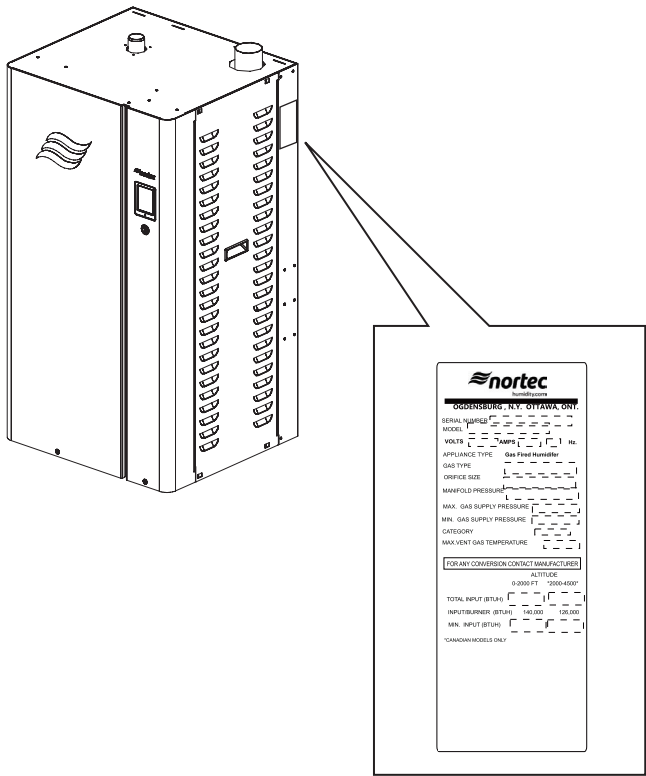

Figure 3: Nortec GS Humidifier Specification Label
- Verify the model type on the specification label to ensure that it is suitable for your installation. Refer to Figure 3 on page 10.
The specification label on the right side of the Nortec GS humidifier shows its model number, serial number and ratings – refer to Figure 3.